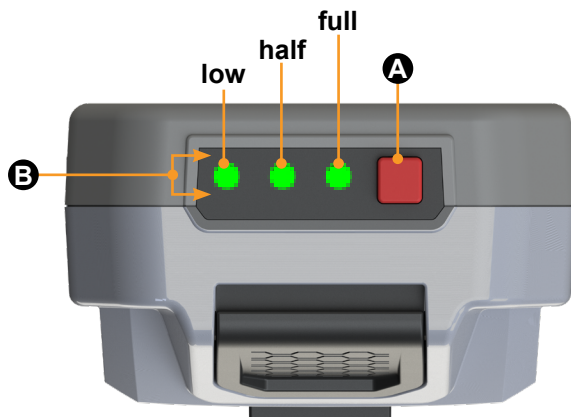

Fig.33
4. When all three power level indicator lights (Fig.33) turn on green, the battery is fully charged.